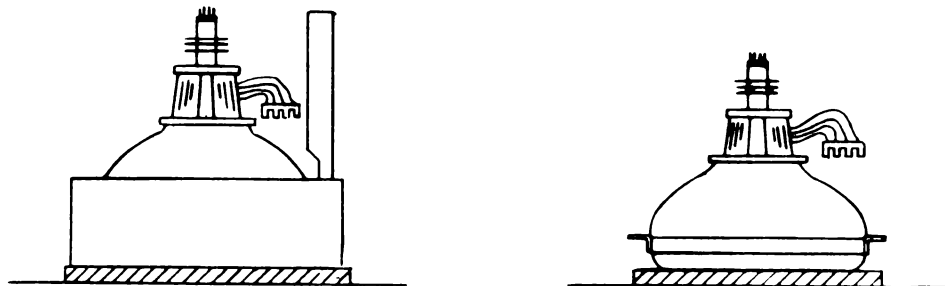

FIGURE 12
4. Place the monitor face down on a protective pad (Figure 12).